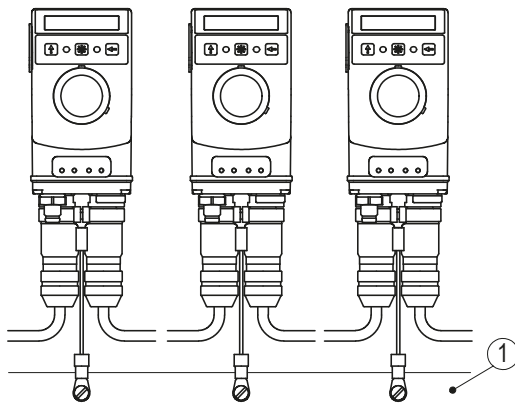

Fig. 5: Ground bar
For protection against interference, the screens of the signal lines and the power line must be connected on both sides. Potential differences cause inadmissible currents on the screen. Install the ground connection ③ onto the protective ground conductor potential between the plug connectors (see Fig. 4). Use 6.3 mm flat connectors or cable lug with short strands 2.5 ... 4 mm2 (not in the scope of delivery). For multiple position indicators we recommend connecting the grounding to a ground bar ① (see Fig. 5).